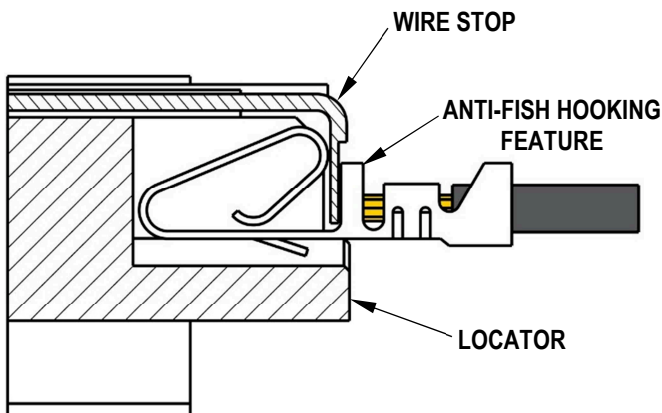

Figure 4
- ** For terminal series 8818 (using the gray hand tool locator), the wire stop will fall between the contact and the anti-fish hooking feature. See Figure 4.